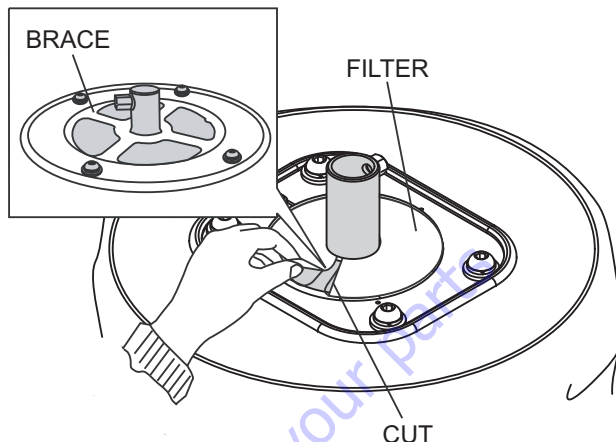

Figure 44. Filter Placement
5. Install a new filter over the brace as shown in Figure 44. Be sure to align the **cut of the filter** over the brace.